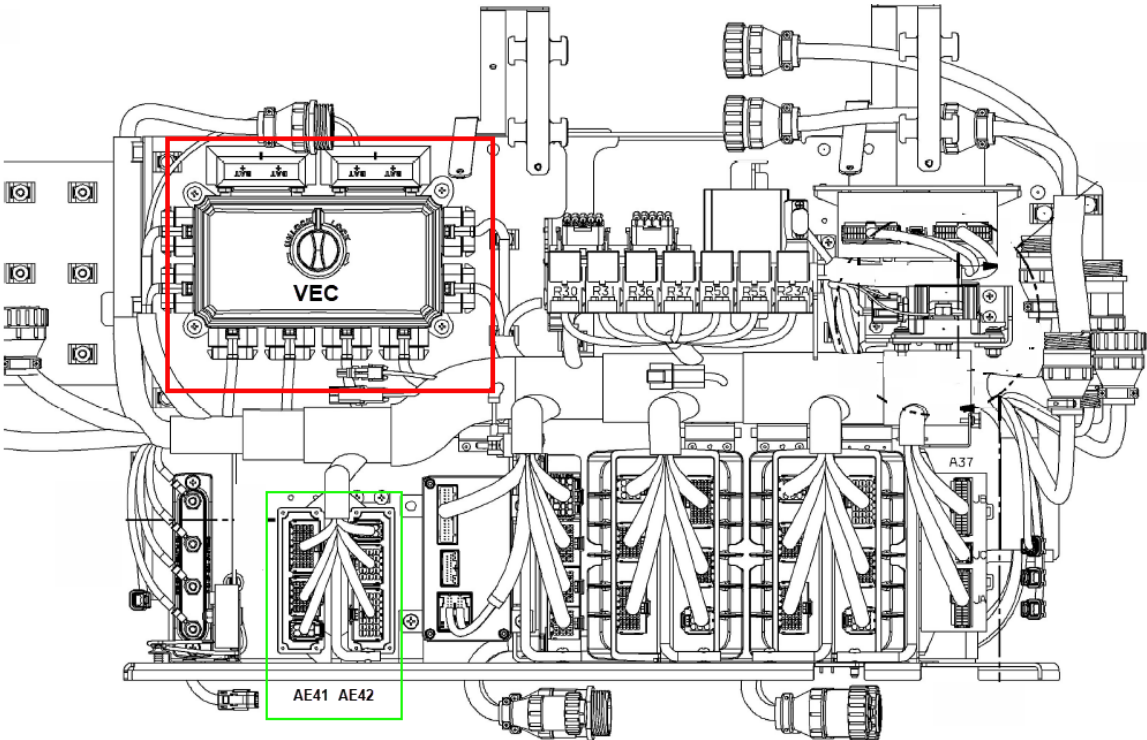

Figure 1 : VEC unit location in front junction box (also shown AE41 & AE42 affected modules).
1. Open the vehicle front electrical compartment (front junction box) and locate the VEC unit (figure 1).